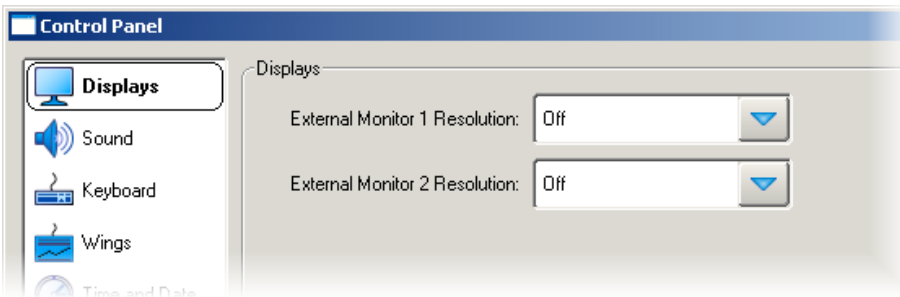

Figure 30.1. The Displays pane of the Control Panel
1. Setup → Control Panel → Displays : open the Displays pane of the Control Panel; see Figure 30.1, “The Displays pane of the Control Panel”.